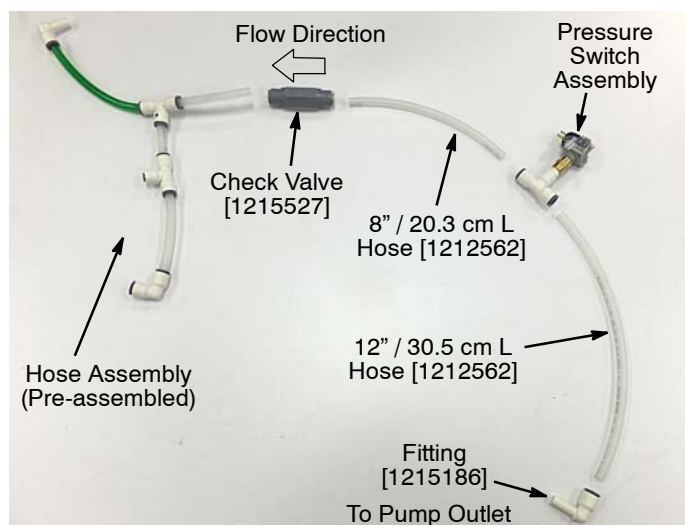

Fig. 21
9. Assemble the ec-H2O solution hose assembly as shown (Figure 21).